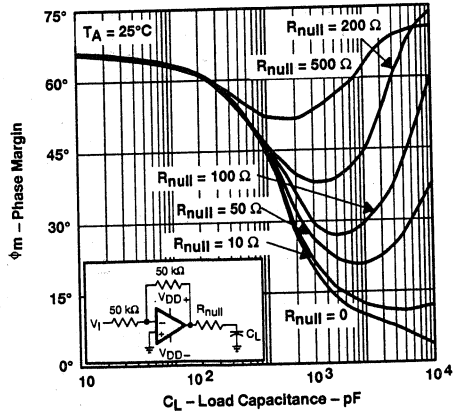
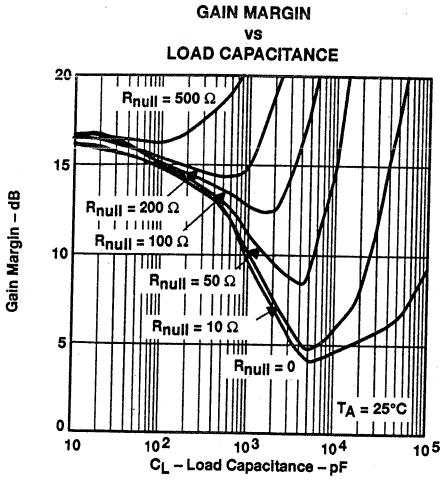
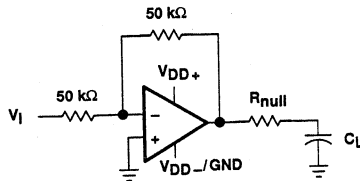

Figure 51
Figure 52
Figure 55. Series-Resistance Circuit
The TLV2252 is designed to drive larger capacitive loads than most CMOS operational amplifiers. Figure 51 and Figure 52 illustrate its ability to drive loads up to 1000 pF while maintaining good gain and phase margins ($R_{null} = 0$).
A smaller series resistor (R_{null}) at the output of the device (see Figure 55) improves the gain and phase margins when driving large capacitive loads. Figure 51 and Figure 52 show the effects of adding series resistances of 10 Ω , 50 Ω , 100 Ω , 200 Ω , and 500 Ω . The addition of this series resistor has two effects: the first is that it adds a zero to the transfer function and the second is that it reduces the frequency of the pole associated with the output load in the transfer function.
Using Figure 55, with equation (1) enables the designer to choose the appropriate output series resistance to optimize the design of circuits driving large capacitance loads.